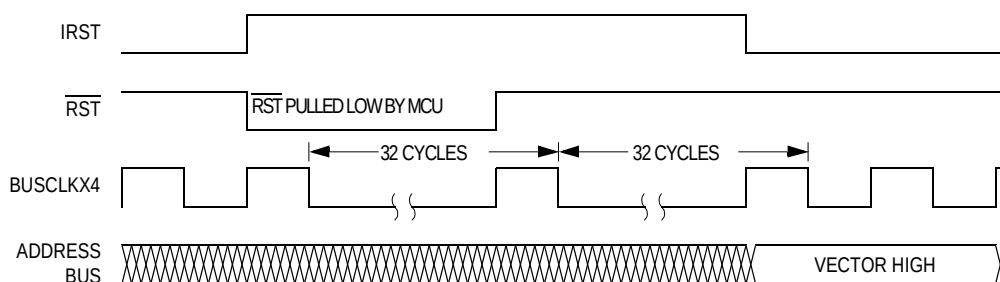
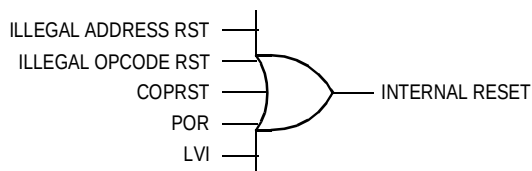

**Figure 7-5. Internal Reset Timing**
Figure 7-6. Sources of Internal Reset
All internal reset sources actively pull the  $\overline{\text{RST}}$  pin low for 32 BUSCLKX4 cycles to allow resetting of external peripherals. The internal reset signal  $\overline{\text{IRST}}$  continues to be asserted for an additional 32 cycles (see Figure 7-5). An internal reset can be caused by an illegal address, illegal opcode, COP time out, LVI, or POR (see Figure 7-6).
**NOTE:** For POR resets, the SIM cycles through 4096 BUSCLKX4 cycles during which the SIM forces the  $\overline{RST}$  pin low. The internal reset signal then follows the sequence from the falling edge of  $\overline{RST}$  shown in Figure 7-5.